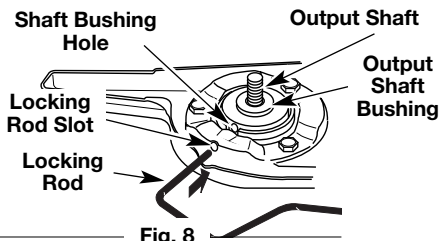
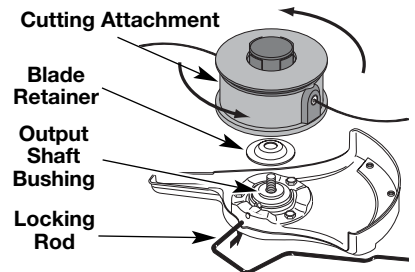

Fig. 8
Fig. 15
1. Align the shaft bushing hole with the locking rod slot and insert the locking rod into the shaft bushing hole (Fig. 8).
6. Align the shaft bushing hole with the locking rod slot and insert the locking rod into the bushing hole (Fig. 8).
1. Align the shaft bushing hole with the locking rod slot and insert the locking rod into the bushing hole (Fig. 8).
5. Align the shaft bushing hole with the locking rod slot and insert the locking rod into the shaft bushing hole (Fig. 8). Place the blade retainer on the output shaft with the flat surface against the output shaft bushing (Fig. 15). Screw the cutting attachment counterclockwise onto the output shaft. Tighten securely.
WARNING: Avoid accidental starting. Make sure you are in the starting position when pulling the starter rope (Fig. 8). To avoid serious injury, the operator and unit must be in a stable position while starting. To avoid serious personal injury, ensure any Add-On being used is installed correctly and secure before starting the unit.